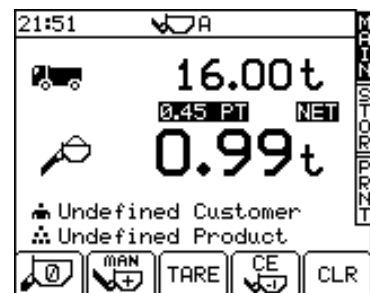

Figure 15a
The Preset Tare (PT) is then displayed on the MAIN screen (fig 15a). With a tare set, each bucket weight is displayed with the **NET** symbol above it (fig. 15a) and any printout will be identified with the letters "NET"